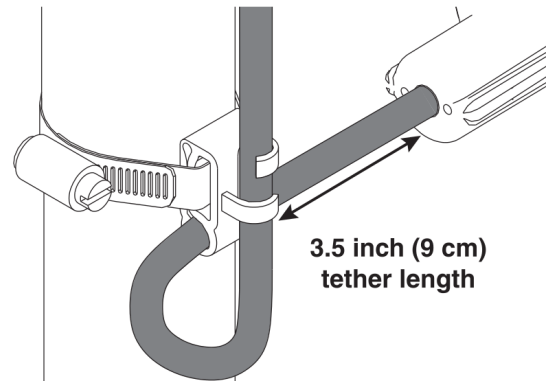

Figure 2
- 1) Place the float switch cord into the clamp as shown in **Figure 2**.
- 2) Locate the clamp at the desired activation level and secure the clamp to the pump discharge pipe as shown in **Figure 2**.